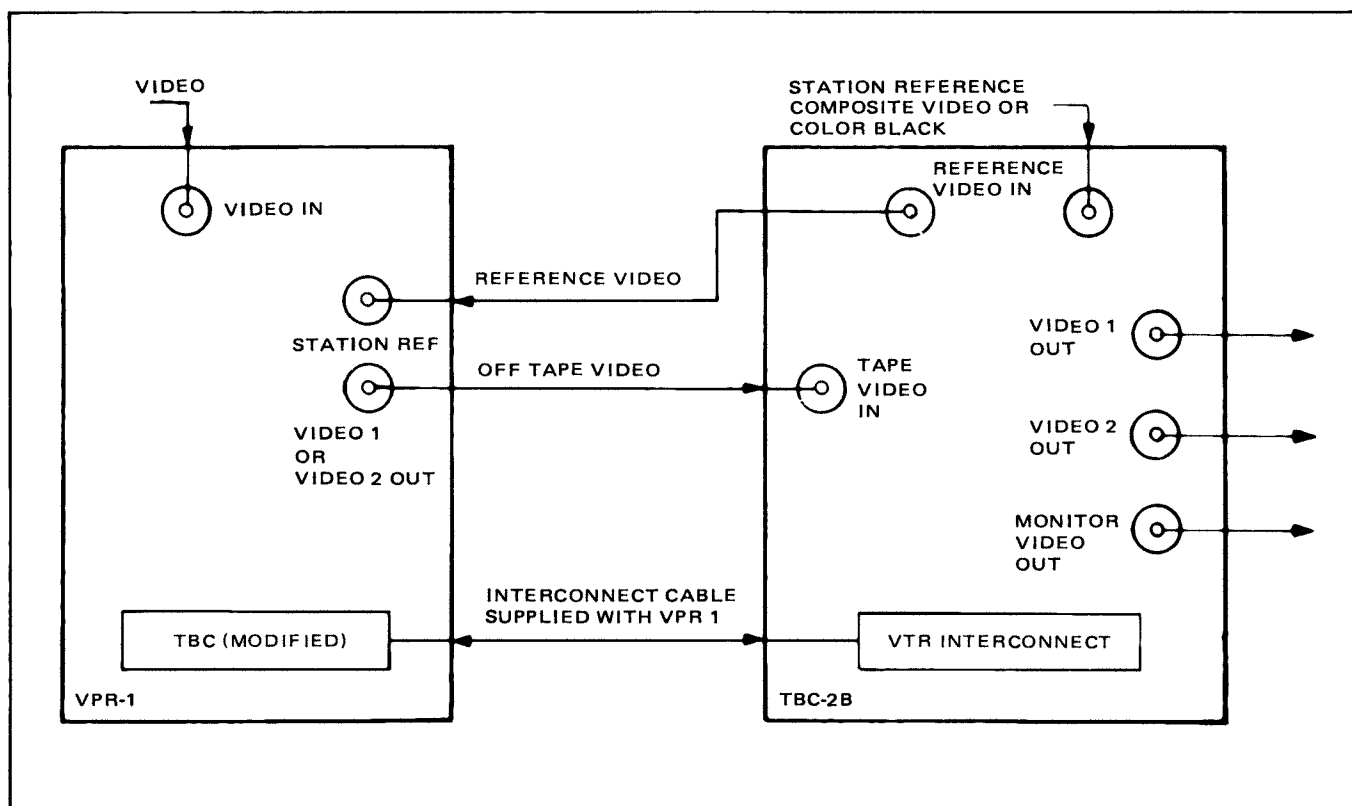

Figure 2-5. TBC-2B/Modified VPR-1 Installation
3. Modify the VPR-1 interconnect cable in accordance with the procedure of paragraph 2-22. Interconnect the TBC-2B with the VPR-1 in accordance with Figure 2-5.